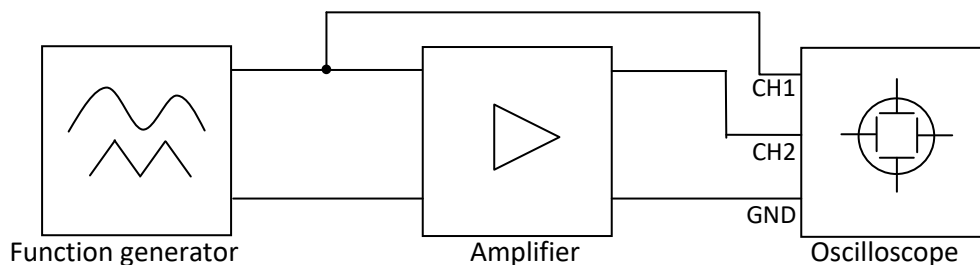

Figure 2. – Measurement of saturation
- Measure the saturation! Perform it with the oscilloscope! Construct the layout shown on Figure 2. Increase the amplitude of the 1 kHz sinusoidal signal set up on the function generator from zero to the point where the output starts to distort on the scope. Read the peak-to-peak value of the input here, this is the saturation.